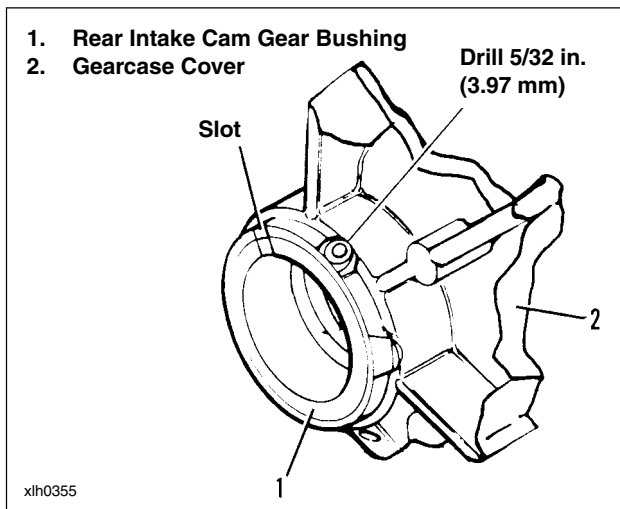

Figure 3-66. Rear Intake Cam Gear Bushing Installed in Gearcase Cover
4. See Figure 3-66. Position bushing (1) over bore of gearcase cover (2) with chamfered edge downward and slot upward. Align slot in bushing with slot in gearcase cover boss. Press bushing into cover bore until bushing is flush with cover boss.